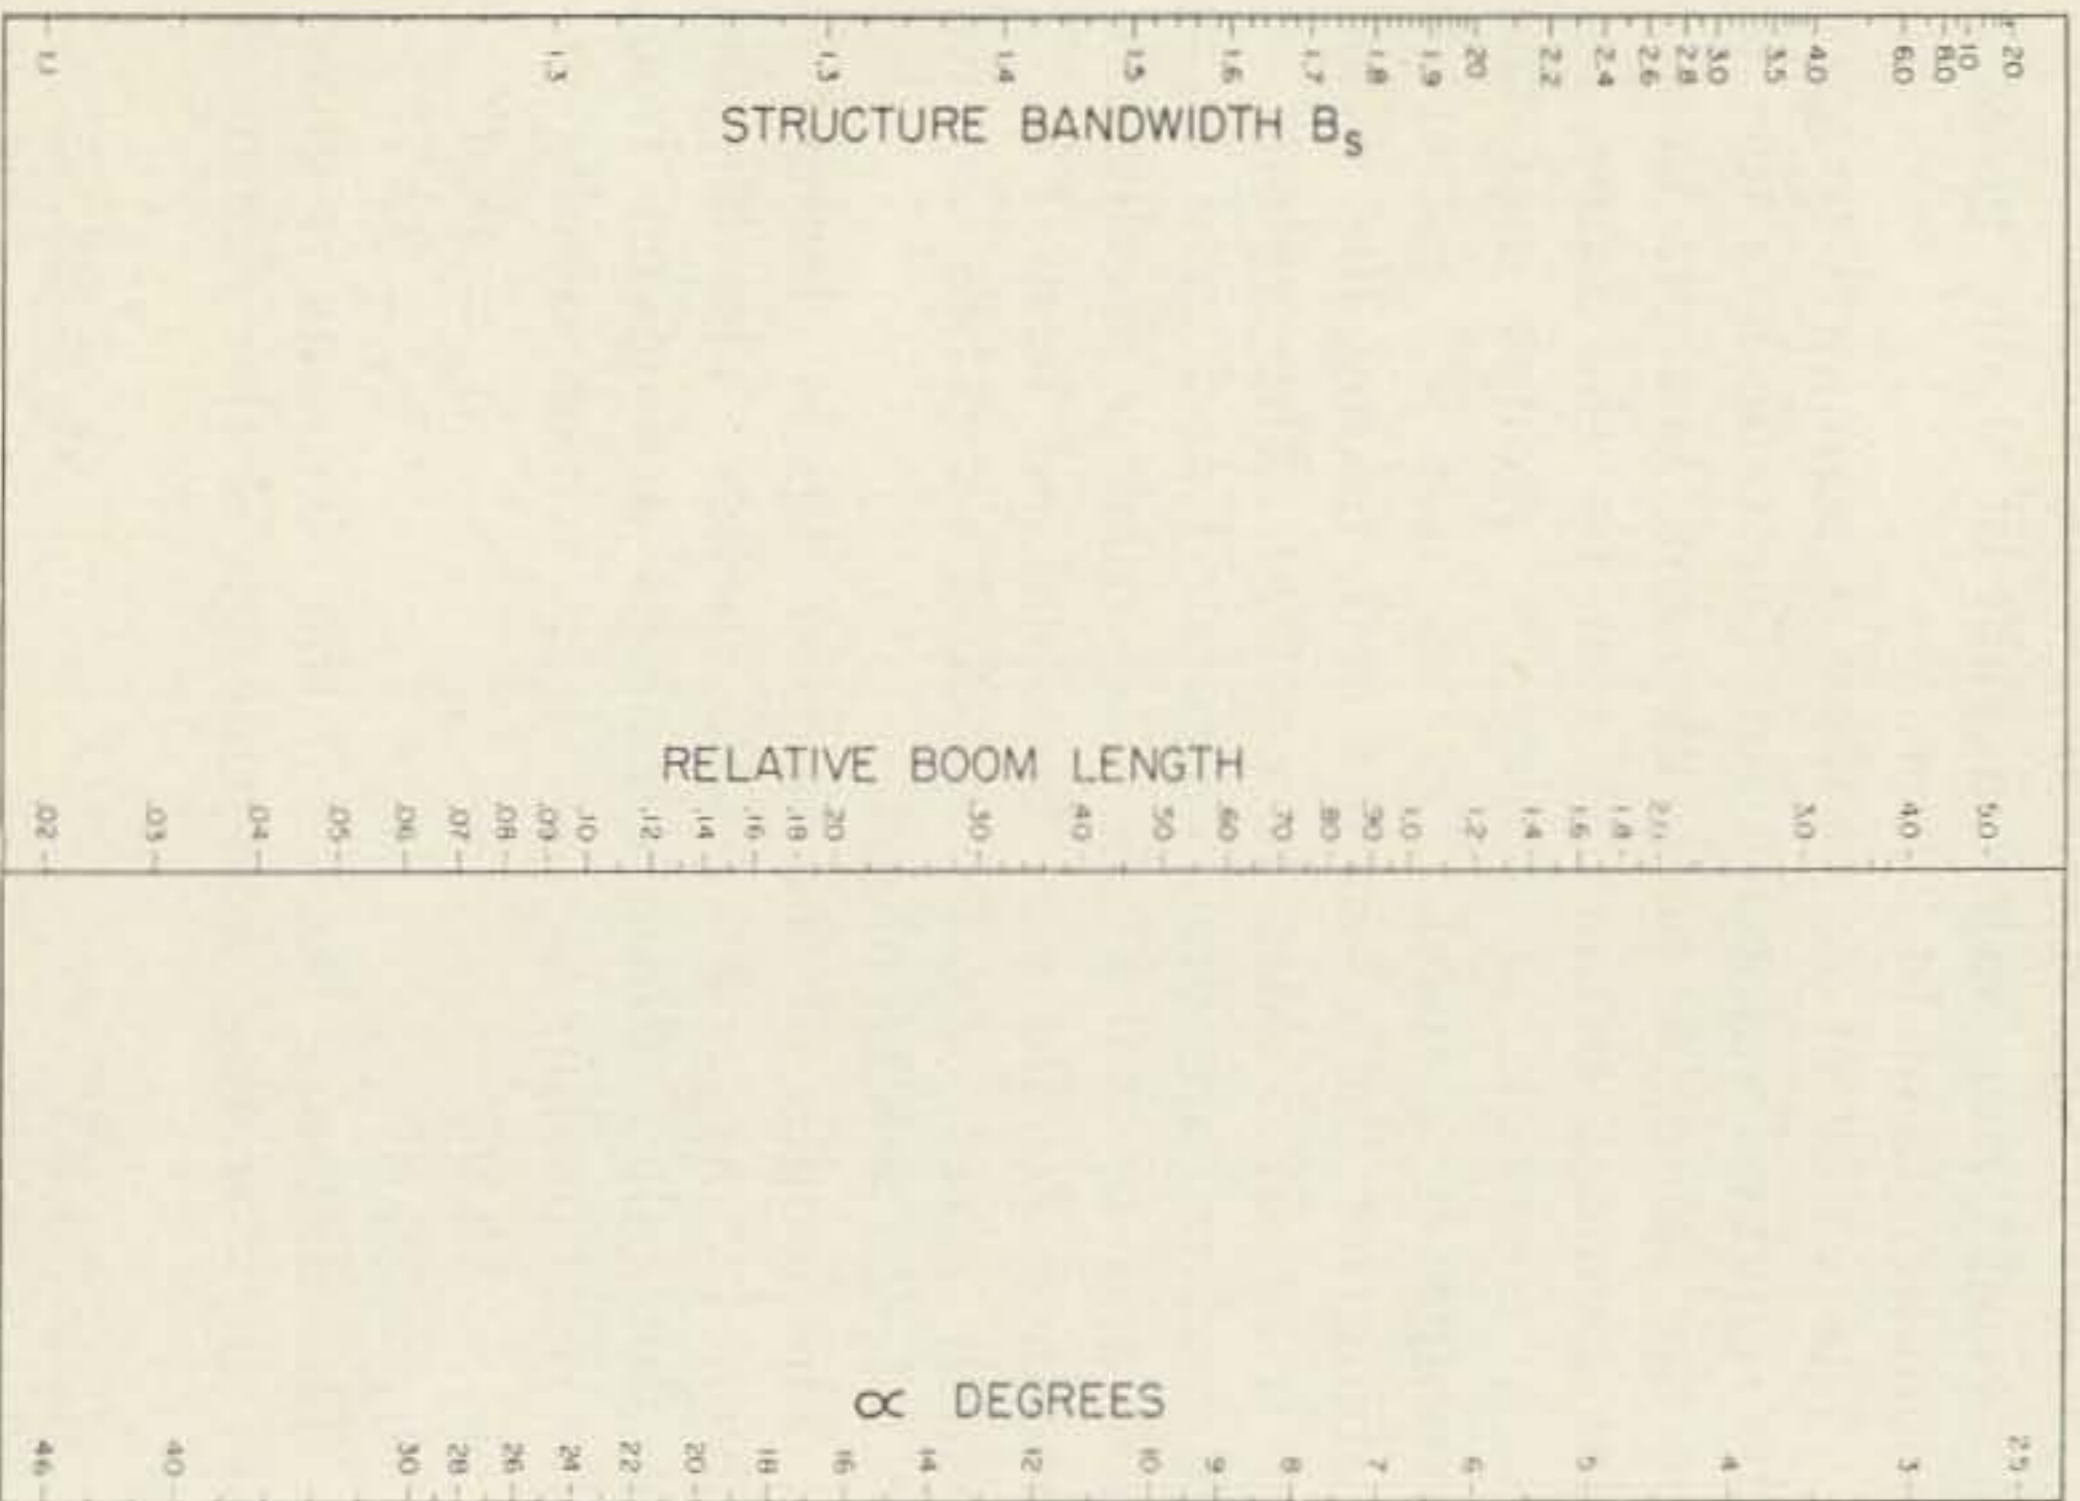

Fig. 5.
d. From Fig. 5, $x/\lambda_{max} = 0.38$; $\lambda_{max} = 984/f = 19.65$ feet. $x = 19.65 \times 0.38 = 7.46$ feet.